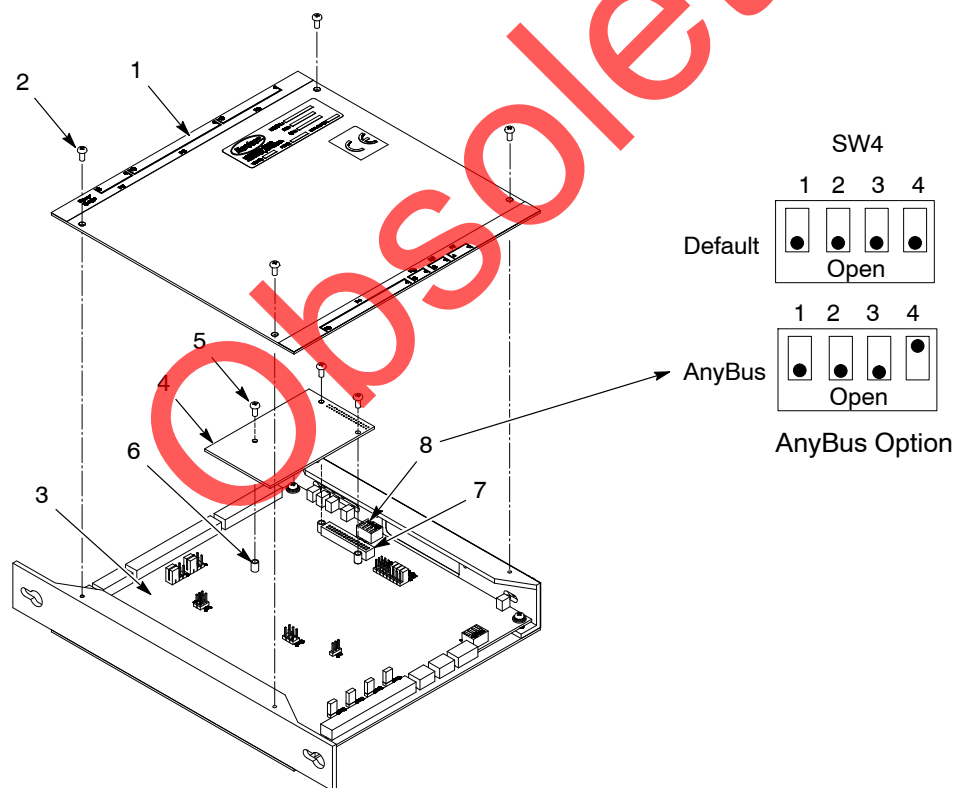

Figure 3 Anybus Module Installation and Jumper Setting
Follow this procedure to install the AnyBus-S module on the PRx board. See Figure 3.
**NOTE:** If necessary, remove the PRx module cover as shown in Figure 3 to set jumpers on the PRx board for other options.